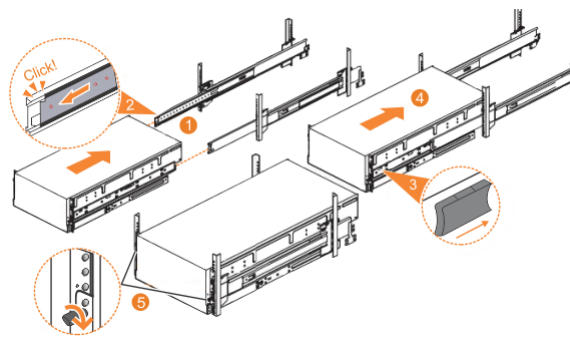

Figure 50. Replacing the 5U enclosure in the rack
1. Fully extend the left and right drawer sections from the rack to lock the rails in the extended position (1 in Figure 50 on page 92).
2. Ensure that the ball bearing retainer clicks into place inside the front of the left and right drawer sections (2 in Figure 50 on page 92).
6. Locate the left and right blue release tabs near the front of the enclosure. Press both release tabs forward to unlock the drawer mechanism (3 in Figure 50 on page 92).
7. Push the enclosure firmly into the rack (4 in Figure 50 on page 92).
8. Tighten the locking thumb screws (5 in Figure 50 on page 92) to secure the enclosure in the rack.